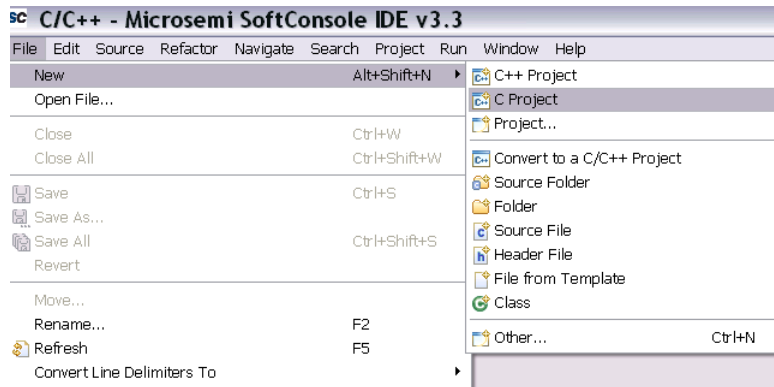

Figure 16 Creating New C Project
4. Go to **File → New → C project**, as shown in Figure 16.